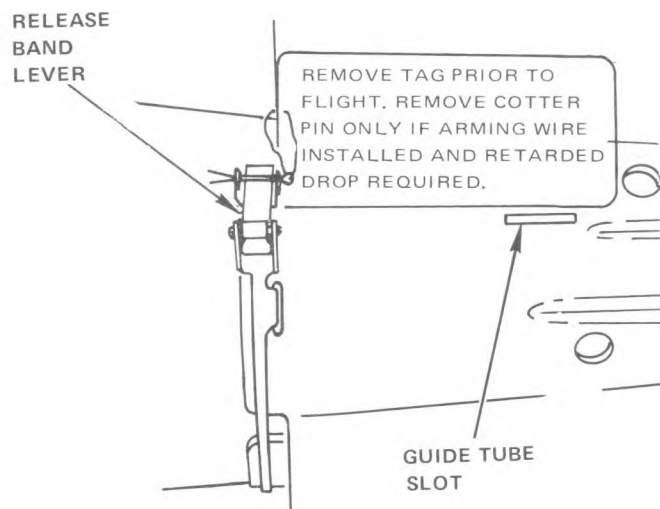

Figure 3-40. Release Band Lever Aligned with Guide Tube Slot (Mod 3 and Mod 4 Fins)
1. Verify that release band lever is aligned with guide tube-slot as shown in figure 3-40.
1. Verify that release band lever is aligned with guide tube slot as shown in figure 3-40.